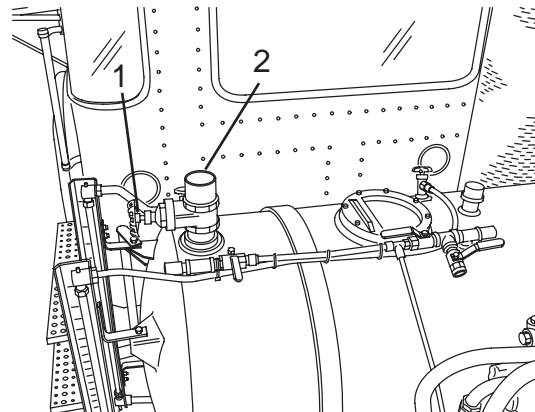

Figure 73
2. Open the chemical tank gate valve (Figure 73, Item 1) and add the chemical through the inlet (Figure 73, Item 2).